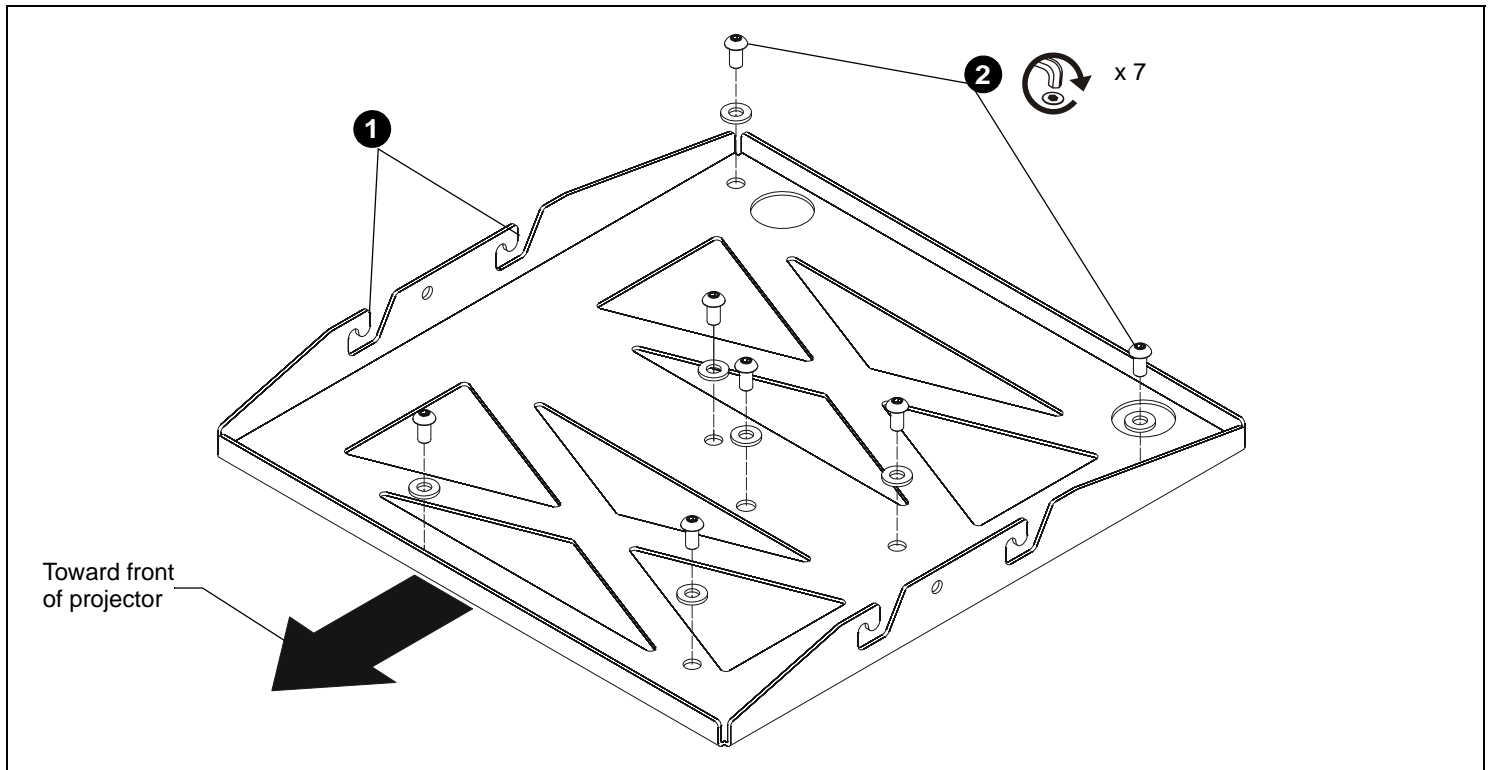

Figure 1:
1. Place HB bracket on underside of the projector and line up the seven screw holes on the bracket with the seven corresponding holes on the projector. Ensure that the side hooks open towards back of the projector. (See Figure 1)
2. Attach HB bracket to projector using seven M8 x 16mm button head screws through washers. Install each screw partially to make sure all screws are aligned correctly before tightening the screws to the bracket. (See Figure 1)